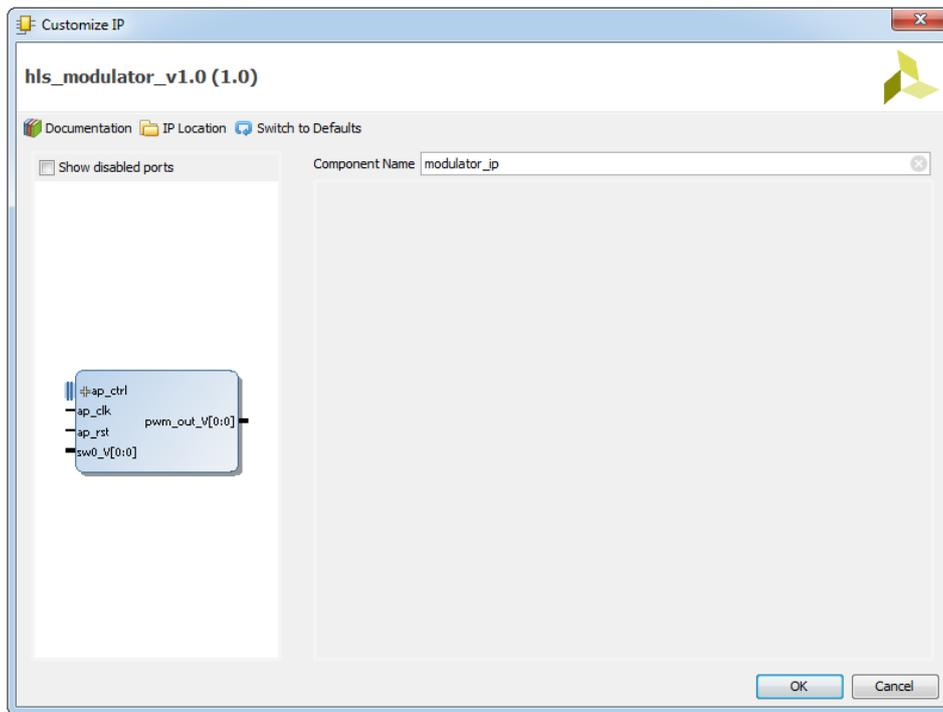

Figure 3.1: Customize IP dialog box for hls_modulator_v1.0(1.0) IP core
The window that will be opened is used to set up the general **hls_modulator_v1.0** IP core parameters, see Figure 3.1.
Step 12. In the *hls_modulator_v1.0 (1.0)* customization window, change the **Component Name** to be *modulator_ip*, as it is shown on the Figure 3.1 and click **OK**.